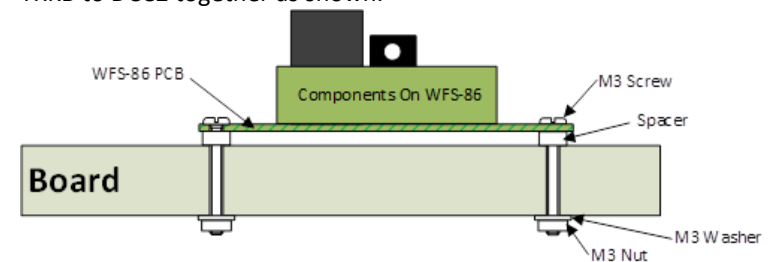

Figure 6 Mounting Suggestion
- (2) You will see the Main Menu page as below:
- (3) To test the switch machine channels, click or tap the Switch Machine Channels option. You will see the screen below. The names of each channel default to the serial number plus the channel number as shown:
- (9) Mount the unit using the four M3 metric screws, nuts and spacers provided in the mounting kit. Mount the unit on a suitable piece of board, either your baseboard (top or bottom) or a separate board perhaps at the front of your model railroad. The component side of the module should face away from the board as in Figure 6. Take care that no part of the unit touches any metal as this may cause a short circuit and result in permanent damage. Do not mechanically stress or bend the module as this may cause permanent damage. **Take care to ensure that there is adequate ventilation to avoid overheating.**
- (10) **CHECK YOUR WIRING!** Turn on the power. If you have installed manual push buttons you may test the unit by pressing each button momentarily in turn. You can also test using a web browser on Apple IOS, Android or Windows as in the next section. Your DCC Command station is another option using accessory address that default to 100-107. Also refer to the Tower Operator Quick Start, or Full Help Pages for instructions on setting up a schematic control panel using Tower Operator on your Windows or Android computer or tablet.